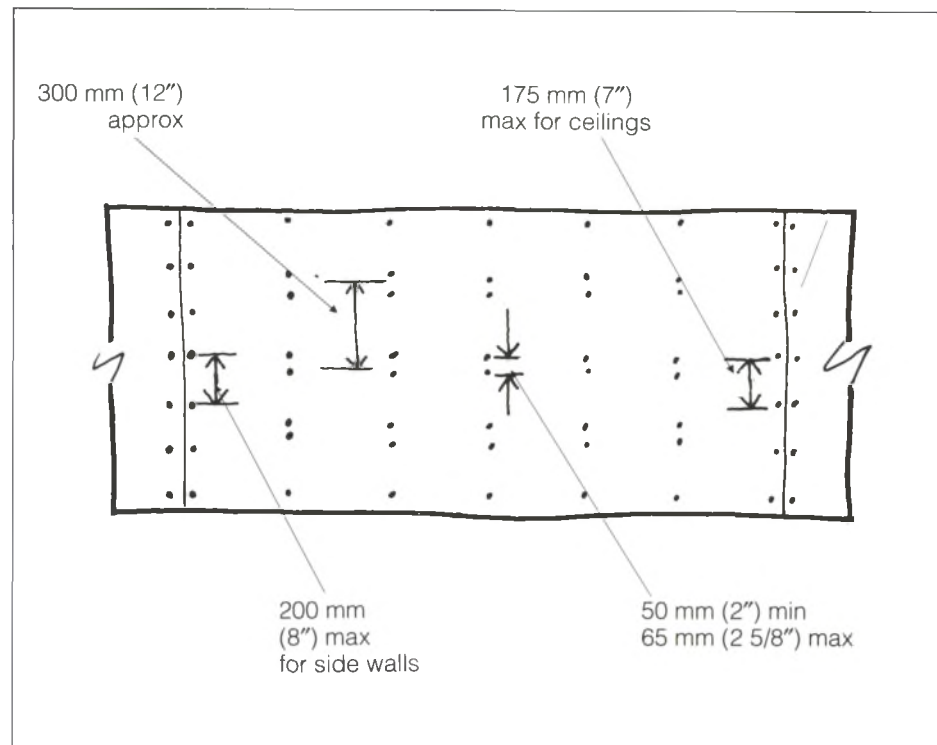

Fig. 5. Double nailing
- Use double nailing or screwing to draw the board tighter to the stud (fig. 5).